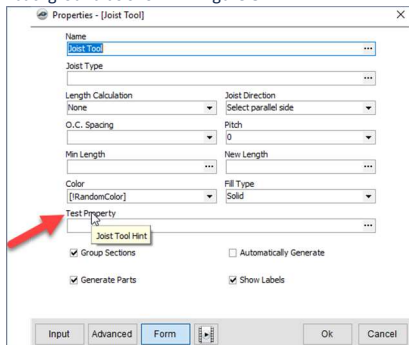

Figure 8
12. Scroll to the bottom of the **Joist Tool Properties** window and click on **Form**, then hover over the **Test Property** text until the "**Joist Tool Hint**" appears with a yellow background as shown in Figure 8.